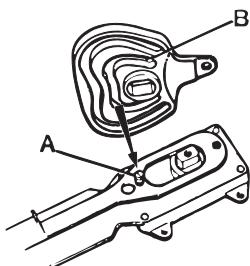

Fig. 5
- Turn the throttle lever 180°, and refit. Note that at pushing throttle the roller (A fig. 5) must be in the inner groove (B fig. 5).